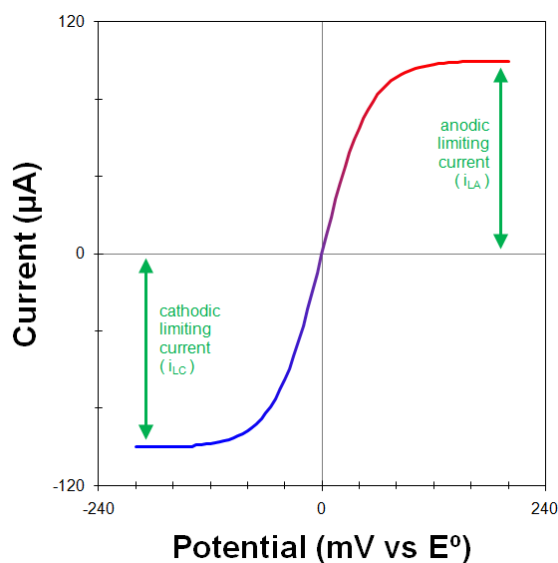

Figure 10-6. Voltammogram for a Solution Containing Both O and R
Finally, it should be noted that when the oxidized form (O) and the reduced form (R) of a molecule or ion are both present in a solution at the same time, the voltammogram is likely to exhibit both a cathodic and an anodic limiting current (see Figure 10-6). It can be very difficult to measure the limiting current properly in this case, especially if there is also a sloping background current. For this reason, most experiments with rotating electrodes are conducted in solutions where only one form of the molecule or ion is initially present.